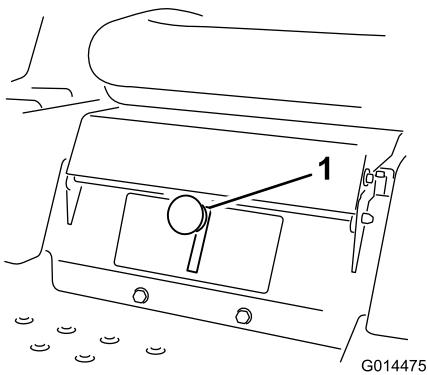

**Figure 17**
2. To go forward, slowly push the motion control levers forward (Figure 17).
To go straight, apply equal pressure to both motion control levers (Figure 17).
To turn, release pressure on the motion control lever toward the direction you want to turn (Figure 17).